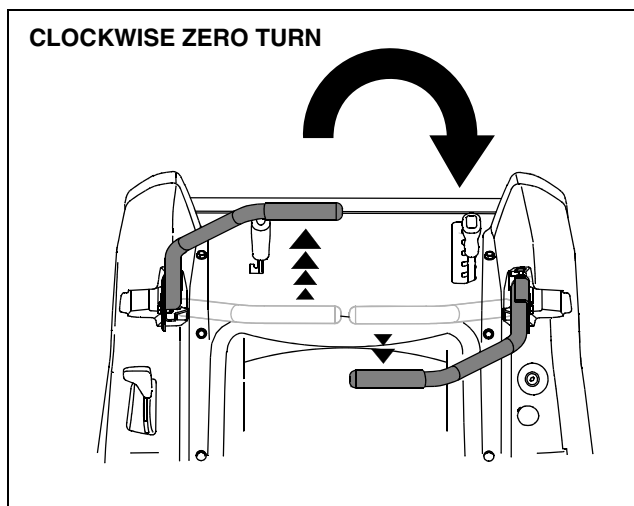

Figure 19
- To turn clockwise, slowly move the left control lever forward while simultaneously moving the right control lever rearward. See Figure 19.